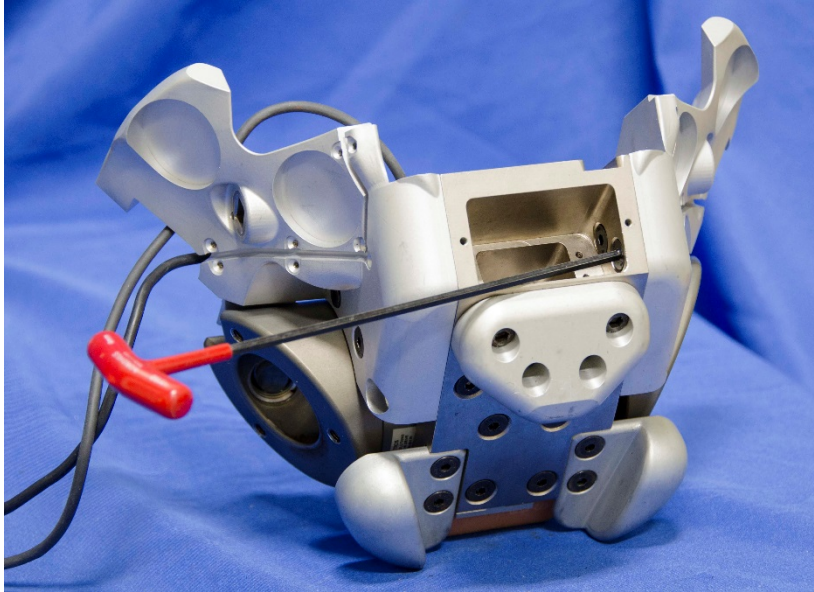
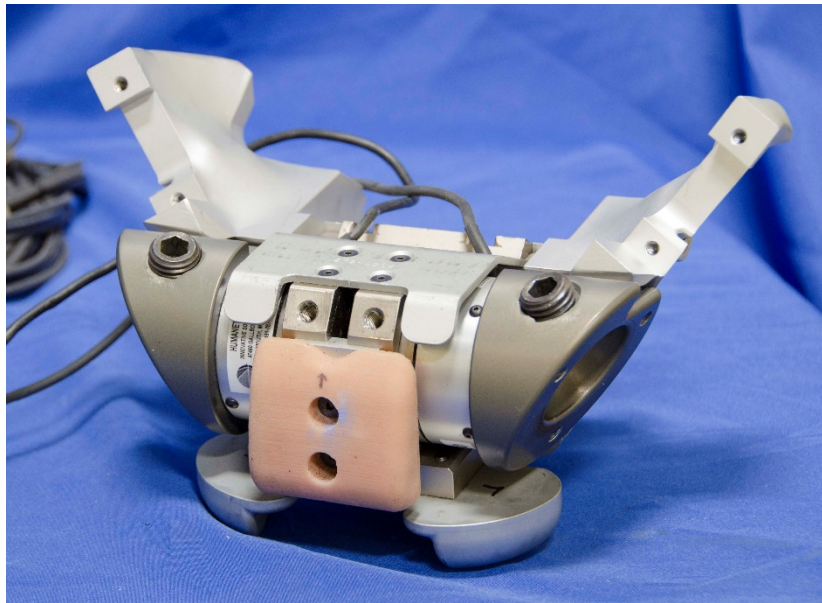

Figure 10-23. Secure interior screws through pelvis base module into iliac wing
Figure 10-24. Pelvis with iliac wings installed
10.2.2.15 Install two M6 x 1 x 16 FHCS per side through the pelvis base module and into the iliac wing (Figure 10-23 and Figure 10-24).